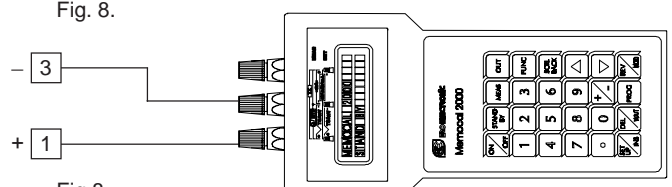

Fig.8
- 2) Connect the instrument under test to the calibrator as shown in Fig. 8.